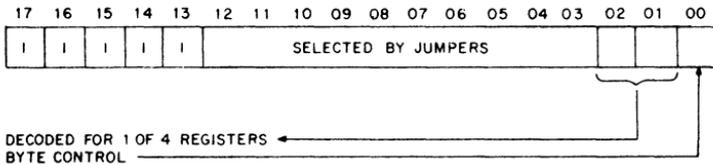

Figure 6-11 Device Register Select Address Format
**Inputs:** The M105 Module input signals consist of 18 address lines, A <17:00>; 2 bus control lines, C <1:0>; and a master synchronization MSYN line. The address selector decodes the 18-bit address on lines A <17:00> as described below. This address format, used for selecting a device register, is shown in Figure 6-11. Note that all inputs are standard bus receivers.